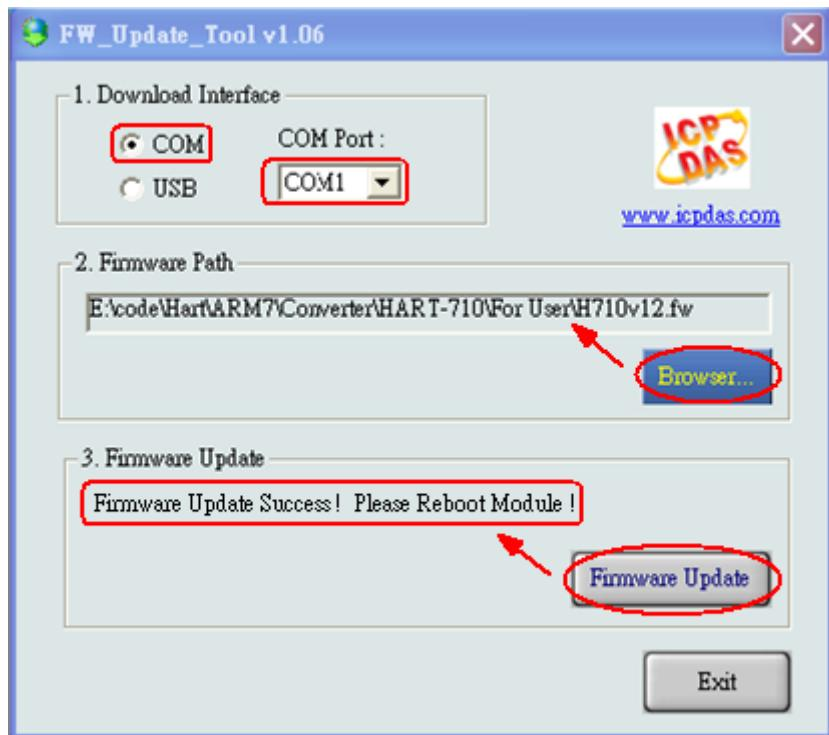

Figure 4-3 "FW_Update_Tool"
(4) Run "FW_Update_Tool" like Figure 4-3 (Download from :